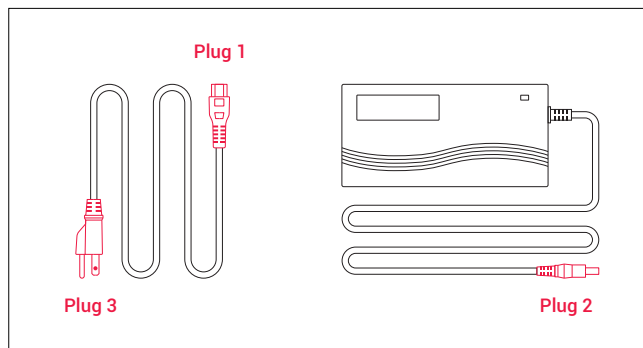

Figure 8
Step 2: Assemble the charger as shown in Figure 8 by inserting the plug (Plug 1) into the transformer.